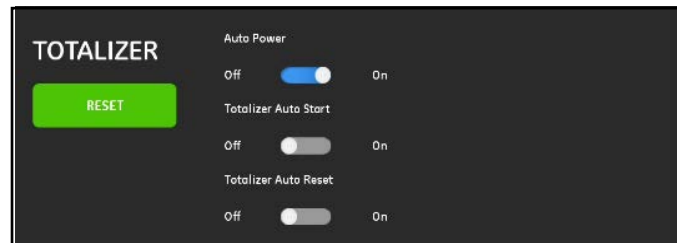

Figure 128: TOTALIZER AUTOPOWER function
- **AUTO POWER:** When enabled, the device will automatically power on when external power is restored after an outage. If this function is activated, the AUTO START and AUTO RESET features can be enabled if required (*Figure 128*).